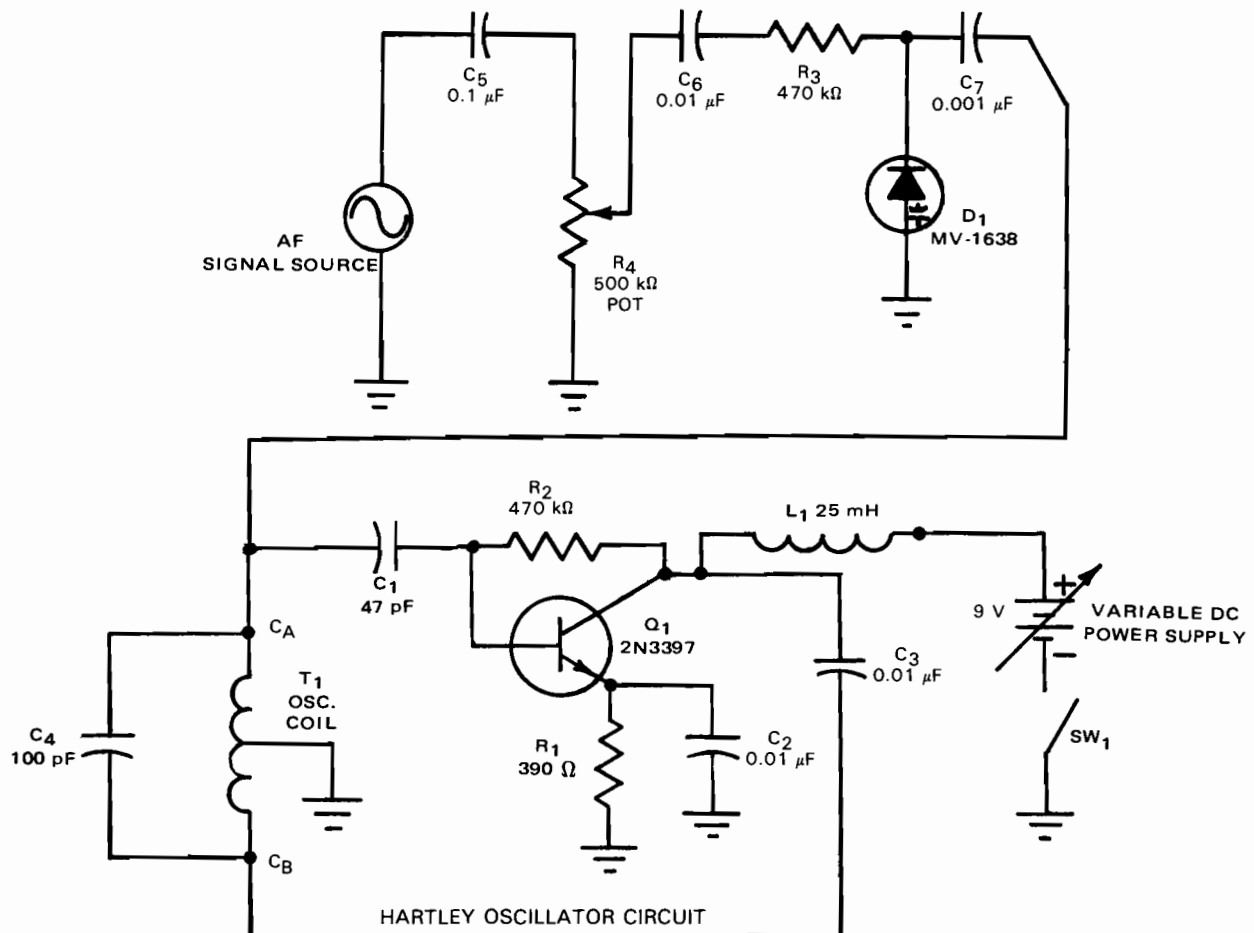

Fig. 19-3-1
1. Connect the FM test circuit of Fig. 19-3-1.